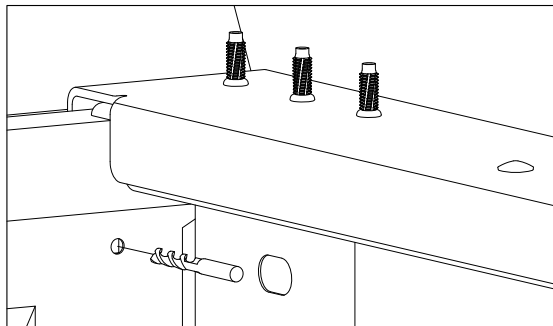

FIGURE A4: PASSENGER SIDE OF BED
6. **Drill 5/16" forward hole.** Once you have marked the hole location use a center punch to prepare for drilling. Drill the hole using a 5/16" drill. The drill may drift a little as it finds the center of the matching hole in the bed protector, see figure A4.